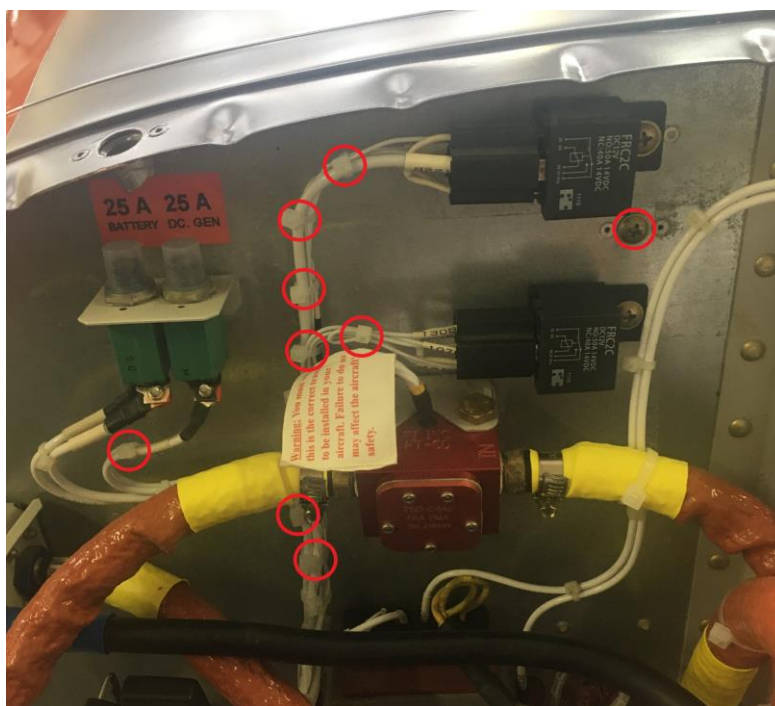

Fig. 30: Zip ties position
28) Bind the wire with zip ties and return the screw from the relay (See Fig. 30)